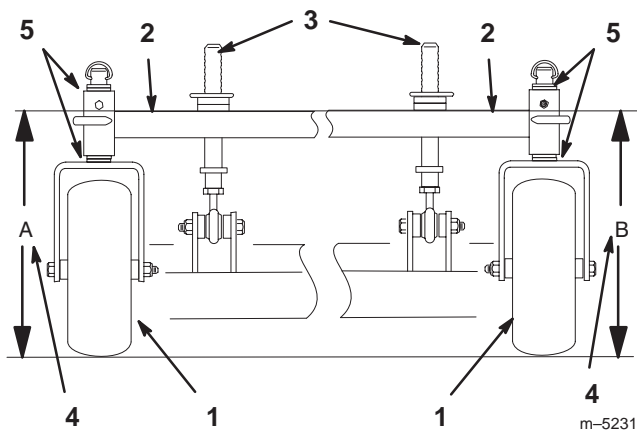

Figure 61
3. Measure carrier frame height at location "A" (Fig. 61).
4. Measure carrier frame height at location "B" (Fig. 61).